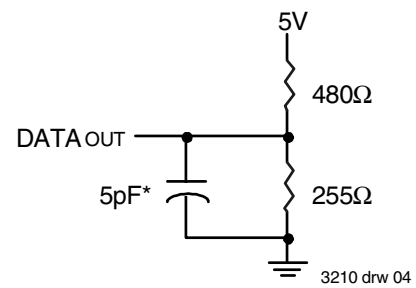

Figure 2. AC Test Load
1. This parameter is guaranteed with the AC Load (Figure 2) by device characterization, but is not production tested.